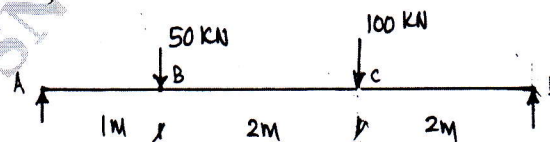

Fig Q10
- 10 Calculate the slope at the supports and deflection under the loads for the beam shown Fig Q10. $E = 2 \times 10^8 \text{ kN/m}^2$, $I = 0.0003\text{m}^4$.